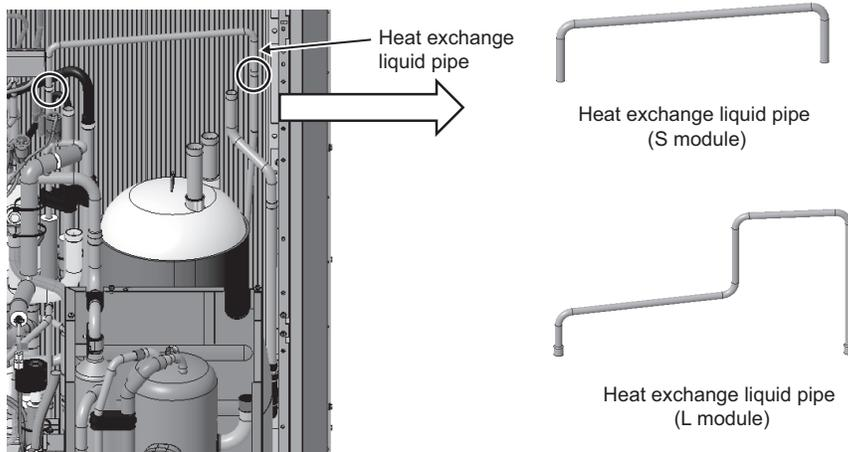

Fig. 9
(9) Remove the brazing from the heat exchange liquid pipe. (Two areas: Fig. 9)